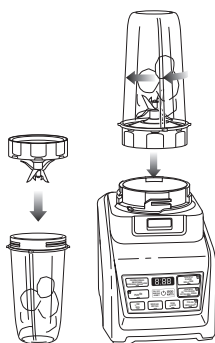

Fig. 2
- 4 Rotate the pitcher clockwise until it clicks in place. As the pitcher rotates, it will lower and the safety tabs on the bottom of the pitcher will slide under the safety tabs on the top of the motor base. (Fig. 2)
- 4 Place the Pro Extractor Blades Assembly onto the cup and tightly screw it on clockwise until you have a good seal. (Fig. 2)